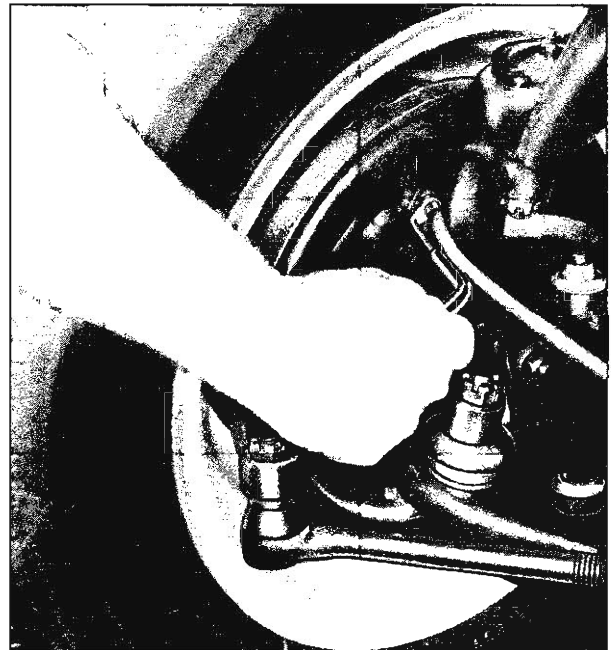

Fig. 5—Bleeding Brakes—Using Tool J-21472
3. Install Tool J-21472 on bleeder valve, and position one end of bleeder hose on bleeder valve (fig. 5).
3. Install Tool J-21472 on bleeder valve and position one end of bleeder hose on bleeder valve (fig. 5).